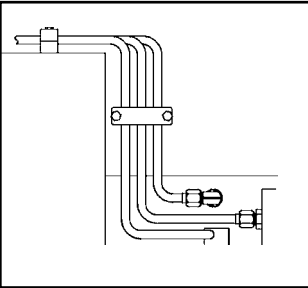

Fig. A28 — Correct
- Have a neat appearance and allow for easy troubleshooting, maintenance and repair. (See Figures A28 and A29.)